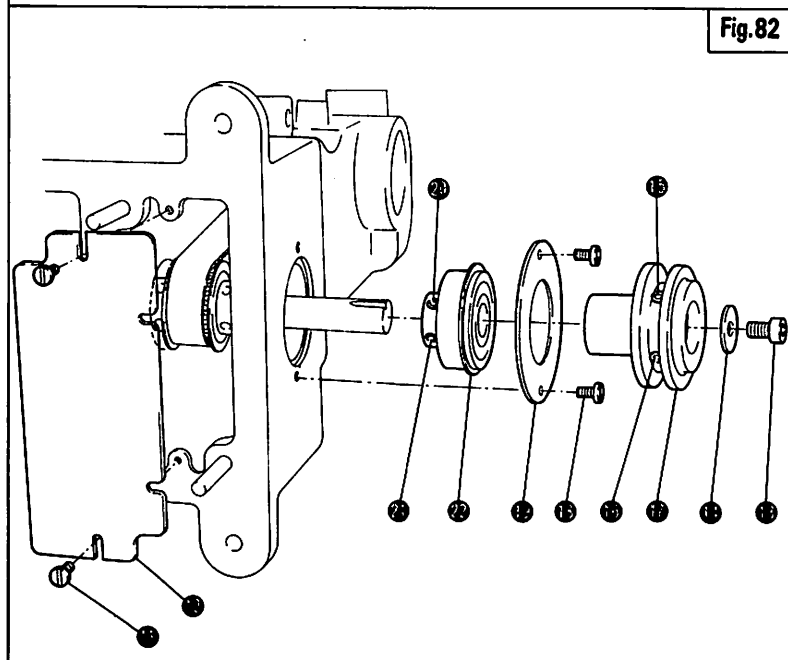

Fig. 82
3. Refer to Fig.82. Remove Cover ⑫, Pulley ⑬, Set Plate ⑭, Bearing ⑮ in sequence of ①~②.
1. Refer to Figs.82, 83. Replace Timing Belt ⑦, Bearing ⑮, Set Plate ⑭, Pulley ⑬, Cover ⑫ in the reverse way of removing.